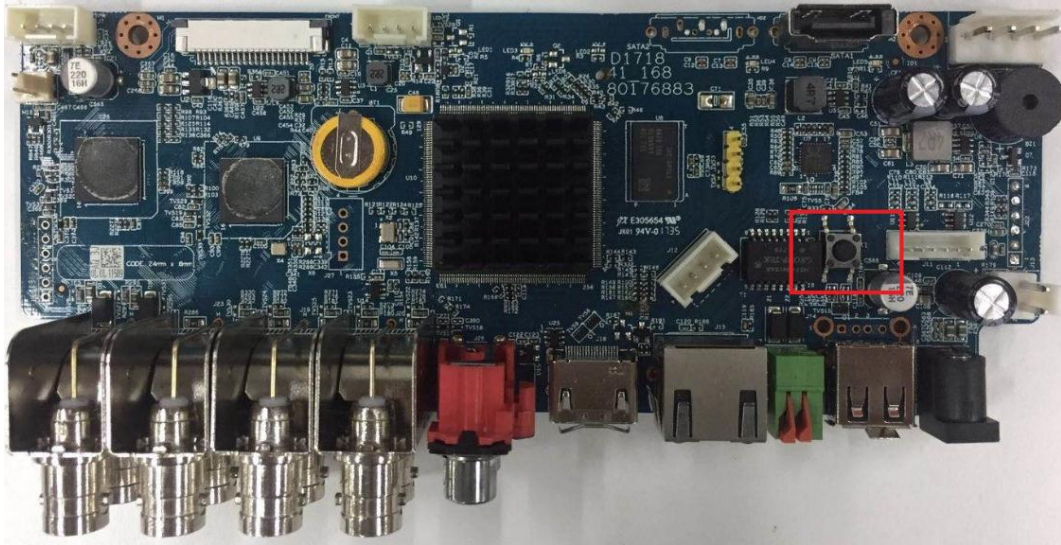

Figure 5-17
Step 2 Find the reset button on the mainboard, and then press and hold the reset button for 5 seconds to 10 seconds. See Figure 5-17 for the location of the reset button.